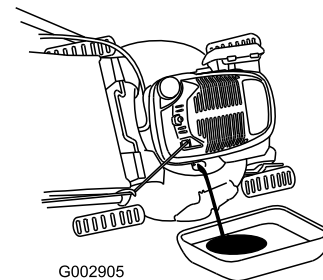

Figure 40
4. Tip the mower onto its side, with the air filter up, to drain the used oil out through the oil fill tube (Figure 40).